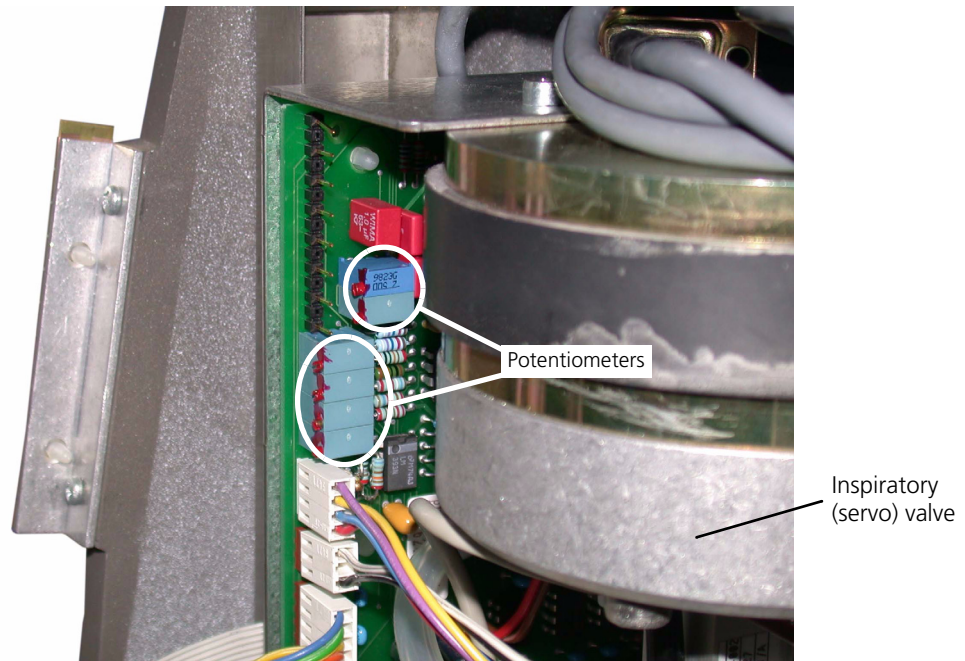
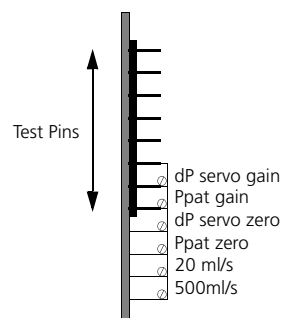

Figure 9-12. Location of the potentiometers on the inspiratory (servo) valve board
Figure 9-13. Identification of the potentiometers on the inspiratory (servo) valve board
- The servo board. This is located to one side of the inspiratory valve as shown on Figure 9-12. The test pins and potentiometers are identified on Figure 9-13.